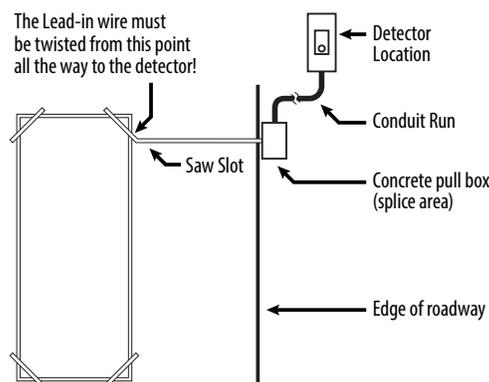

Figure 2-5. Inductive Loop Example
- Wire length between the DZ Counter and third party loop detector system should not exceed 350 feet. (refer to Figure 2-5)